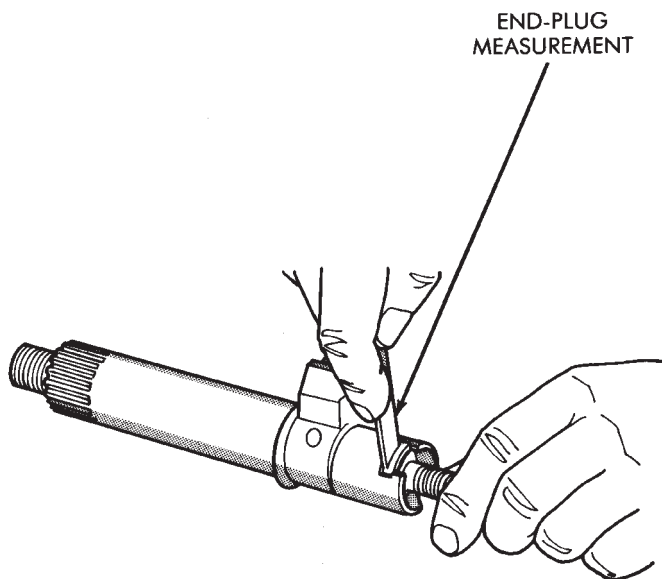
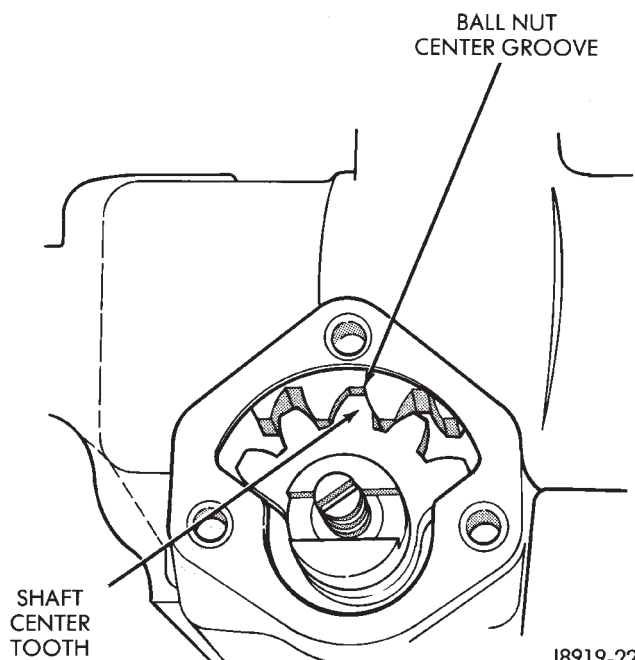

Fig. 6 Preload Adjuster End-Play
Fig. 7 Pitman Shaft and Ball Nut
- (1) Install new pitman shaft seal with suitable size socket.
- (2) Install preload adjuster in pitman shaft T-slot.
- (3) Measure the end-play of preload adjuster with a feeler gauge (Fig. 6). End-play must not exceed .05 mm (.002 in.). If end-play exceeds specifications install replacement shim to obtain correct end-play.
- (4) Tape threads and spline of the pitman shaft to protect the seal during shaft installation.
- (5) Lubricate the pitman shaft and install the shaft into the gear housing. The pitman shaft center tooth must be engaged with the center groove of the ball nut (Fig. 7).